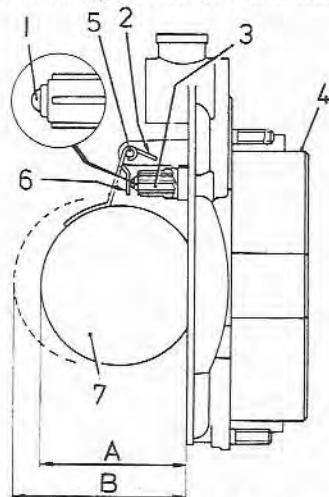

Fig. 13.6 Float level adjustment dimensions (Sec 7)
- 37 Insert the operating rod (4 or 6) into the arm (14) and screw with the split pin (5).
- 38 Insert the rod into the starter device arm (66), then assemble the bush (8) and washer and tighten the retaining screw (7) into the carburettor body.
- 39 Tighten the needle valve seating (11) together with a new gasket (10) into the carburettor cover (1).
- 40 Lower the needle into the needle valve seating (11), tapered end first.
- 41 Lower the float assembly (18) onto the cover (1) and insert the fulcrum pin (9) through the support posts and float arm. If necessary, gently pinch the split post to secure the pin using a pair of pliers.
- 42 The float level adjustment must now be checked in the following manner: Hold the carburettor screw vertical so that the float is hanging from the fulcrum pin with the float level arm in light contact with the needle ball (ie without the ball being depressed). Using a vernier caliper, check that the distance from the cover face (without gasket) to the top of the float as shown in Fig. 13.6 is 1.890 in (48 mm) for 42 DCNF models and 1.969 in (50 mm) for other DCNF models (photo). If not, bend the needle operating tab as necessary.
- 45 Fit the base (80) to the filter gauze (81). With the carburettor cover (1) inverted, press the filter gauze into the inlet cavity.
- 46 Fit the washer (79) to the filter cover plug (78), then tighten the plug into the cover (1).
- 47 Place the gasket (3) onto the top face of the carburettor body (51).
- 48 Lower the carburettor cover (1) onto the main body (51), then insert the retaining screws (86) and washers (85) and